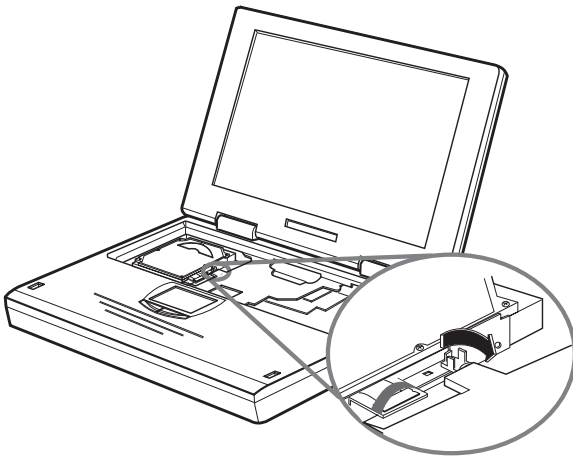
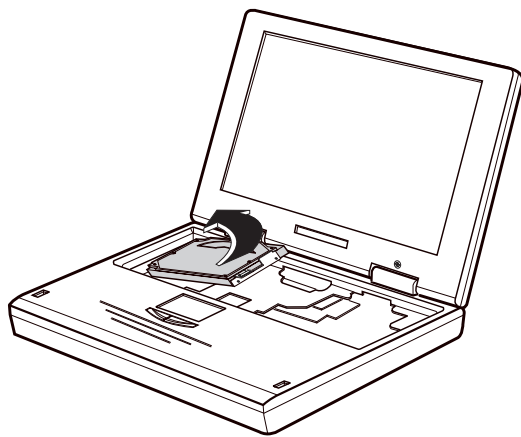

Figure 5-6. Releasing the HDD
Figure 5-7. Removing the Hard Drive
2. Slide the latch that holds the hard drive in place to the unlocked position (Figure 5-6)..
3. Pull up on the attached ribbon loop to disconnect the drive and remove the drive from the system (Figure 5-7).
4. Remove the HDD (Figure 5-6, Figure 5-7).